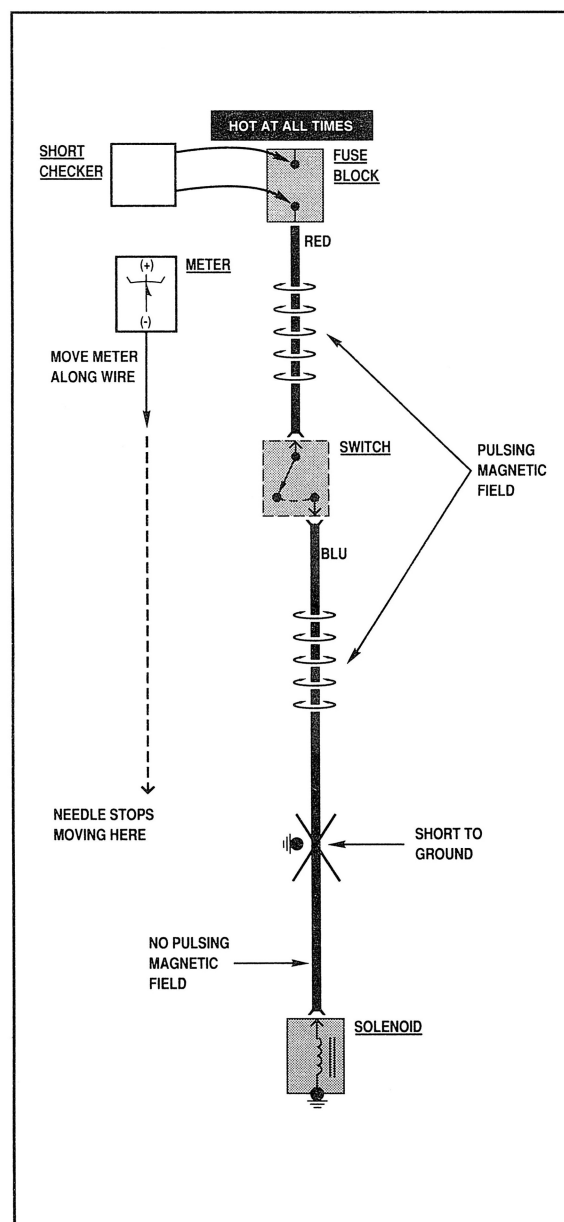

Figure 11 - Finding Short with Short Finder
5. Beginning at the fuse block, slowly move the short checker's meter along the circuit wiring (Figure 11). The meter will show current pulses through sheet metal and body trim. As long as the meter is between the fuse block and the short, the needle will move with each current pulse. When you have moved the meter past the point of the short, the needle will stop moving. Examine the wiring in that area for the short to ground.